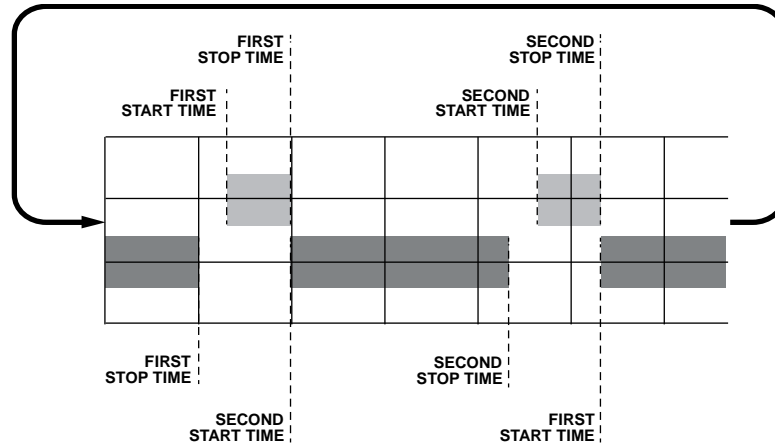

Figure 42. Naming Convention Used for TDD Start/Stop Description in TES
- The **First Tx2 Time[μs]** field determines the beginning and end of the first Transmitter 2 subframes (or group of subframes). The **Start Time (μs)** column determines the beginning of a subframe (or group of subframes) in a single frame. The **Stop Time (μs)** column determines the end of a subframe (or group of subframes) in a single frame. The TES TDD interface follows the convention where a subframe (or group of subframes) is enabled at the end and at the beginning of a frame border, and then the start is marked at the end of a single frame. Figure 42 provides a graphical explanation of the naming conventions used in the TES.